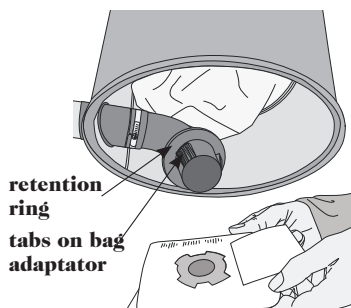

figure 14
3. Install the new bag, ensuring the tabs on the bag adaptor are aligned with the slots in the bag collar (**figure 14**).